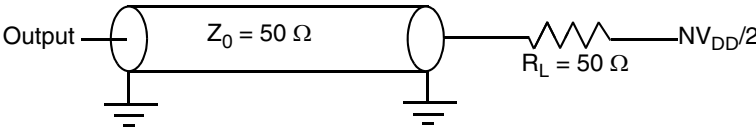

Figure 40. AC Test Load for the JTAG Interface
1. All outputs are measured from the midpoint voltage of the falling/rising edge of t_{TCLK} to the midpoint of the signal in question. The output timings are measured at the pins. All output timings assume a purely resistive 50-Ω load (see Figure 40). Time-of-flight delays must be added for trace lengths, vias, and connectors in the system.
2. The symbols used for timing specifications follow the pattern of $t_{(first\ two\ letters\ of\ functional\ block)(signal)(state)\ (reference)(state)}$ for inputs and $t_{(first\ two\ letters\ of\ functional\ block)(reference)(state)(signal)(state)}$ for outputs. For example, t_{JTDVXH} symbolizes JTAG device timing (JT) with respect to the time data input signals (D) reaching the valid state (V) relative to the t_{JTG} clock reference (K) going to the high (H) state or setup time. Also, t_{JTDVXH} symbolizes JTAG timing (JT) with respect to the time data input signals (D) went invalid (X) relative to the t_{JTG} clock reference (K) going to the high (H) state. Note that, in general, the clock reference symbol representation is based on three letters representing the clock of a particular functional. For rise and fall times, the latter convention is used with the appropriate letter: R (rise) or F (fall).